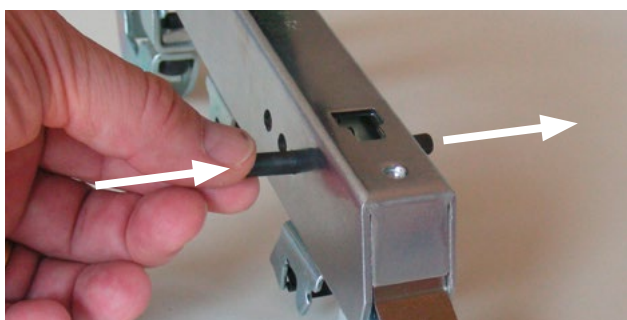

Fig. 8
- Use the original long pin to push the short auxiliary pin out of hole **A1** (Fig. 8).